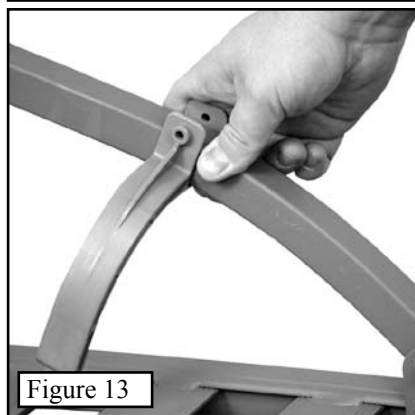
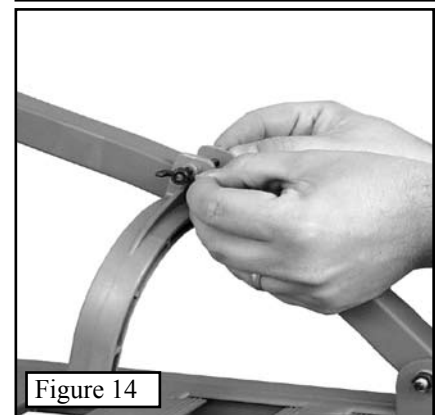

Figure 13
Figure 14
RapidClimb Stirrups. The two (2) RapidClimb stirrups fit on the curved upright arms of the platform. Simply slide one stirrup on each side of the platform so that they are on the inside of the platform and facing down as shown in *Figure 13*. Once positioned, secure with the bolt and wing nut provided as show in *Figure 14*. Occasional readjustment may be required as your footwear needs change. Wrap the supplied bungee cord around one side of the curved platform upright bars and push the S-hook through the loop as shown in *Figure 15*. Hook the S-hook around the opposite curved platform upright bar and back onto itself as shown in *Figure 16*.